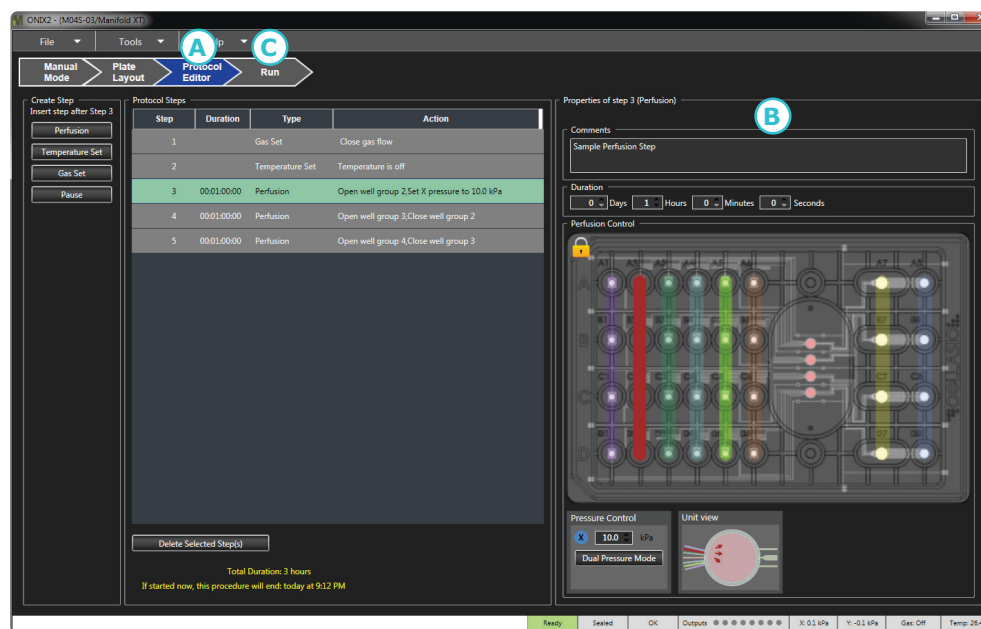

Figure 31. Protocol editor
1. Click **Run** (C) in Figure 31) to go to the Run tab.